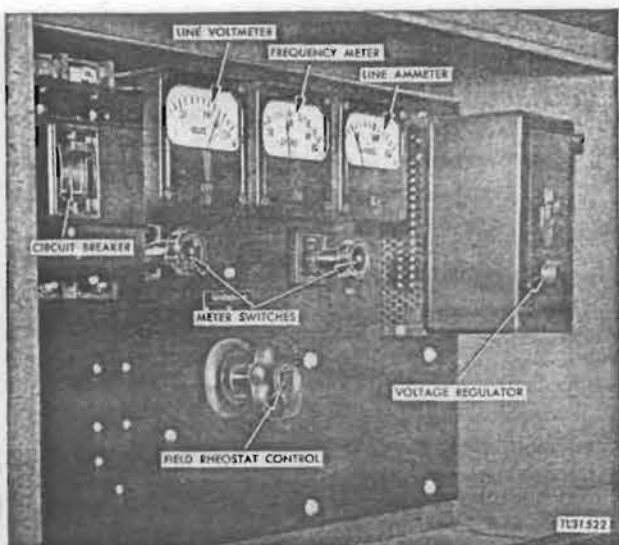

Figure 164. Power instrument panel.
b. LOCATION. The line voltmeter and the line ammeter are mounted on the generator instrument panel as shown in figure 164.